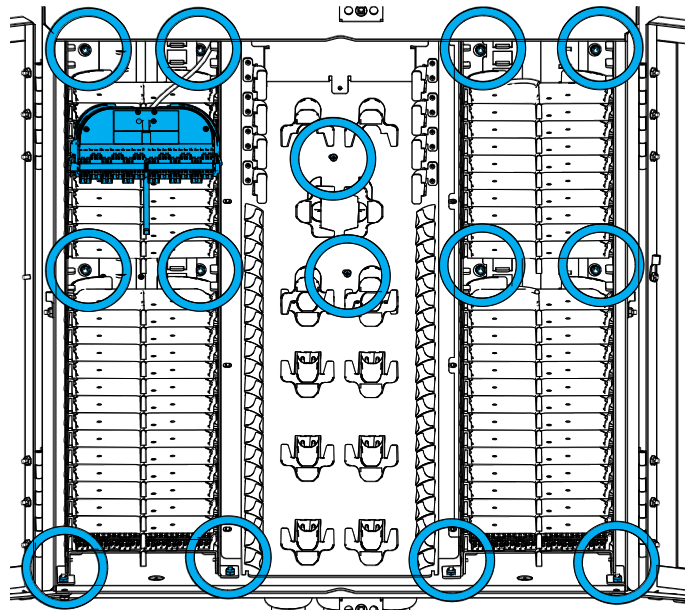

Figure 25. Mounting locations
16.3.1 To disconnect the entire CMOD and storage area assembly from the cabinet shell, remove the six nuts from the right and left CMOD columns and the two screws in the center storage area. See Figure 25 for the attachment locations.